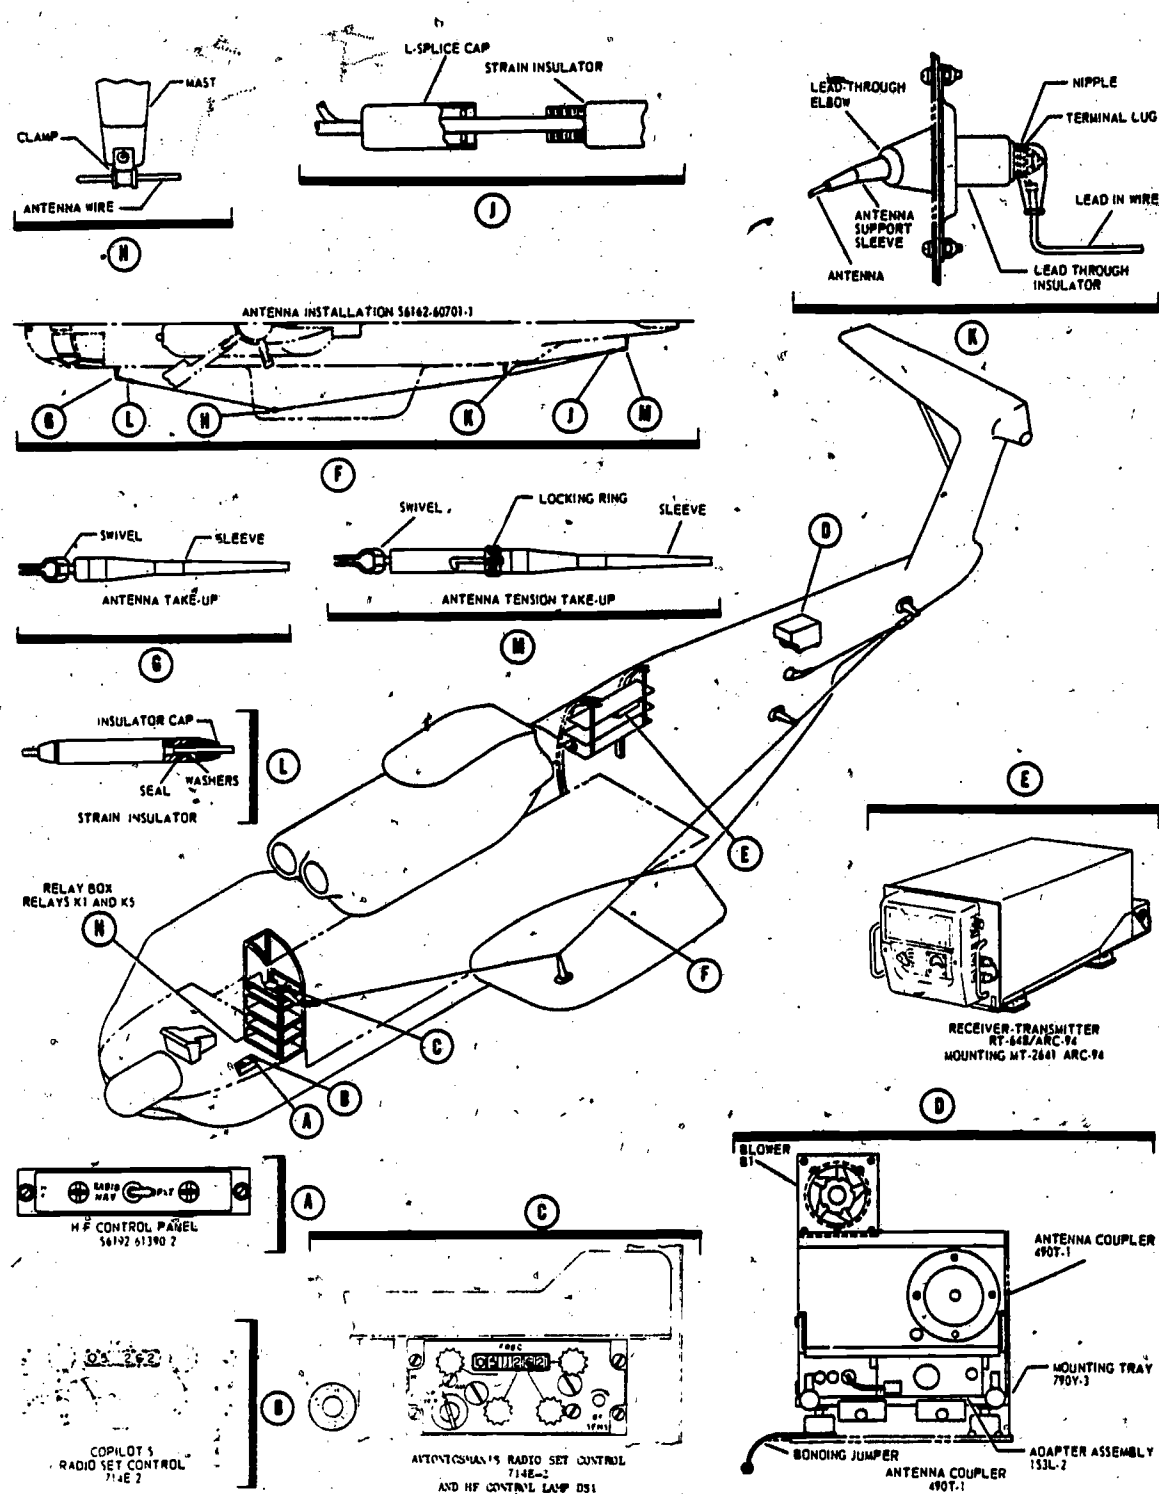

Figure 7-4. HF/COMM system components - location diagram.
antenna, a coupler and a coupler blower. The system provides two-way voice communication between land-based, seaborne and airborne stations. The operating frequency range is from 2.0 to 29.999 MHz, divided into 28,000 discrete channels in one KHz increments. The HF/COMM system receives and transmits on either single sideband (USB or LSB) or amplitude modulated equivalent (AM). The receiver transmitter and the coupler blower are both powered by the No. 2 AC primary bus. The radio set uses 400-Hz three-phase 115-volt AC, and the coupler blower uses 400-Hz single-phase 115-volt AC power. Each unit is protected by a circuit breaker on the pilot's circuit breaker panel. The circuit breaker is under the general heading NO. 2 AC PRI. The receiver and transmitter circuit breaker is marked HF, and the coupler blower circuit breaker is marked HF COUPLER BLOW OB. The control circuit illuminates the avionicsman's HF (figure 7-7) control light and is powered by the DC primary bus. This circuit is protected by a circuit breaker on the pilot's circuit breaker panel. The circuit breaker is under the general headings DC PRI and is marked HF. (See figure 7-4.)